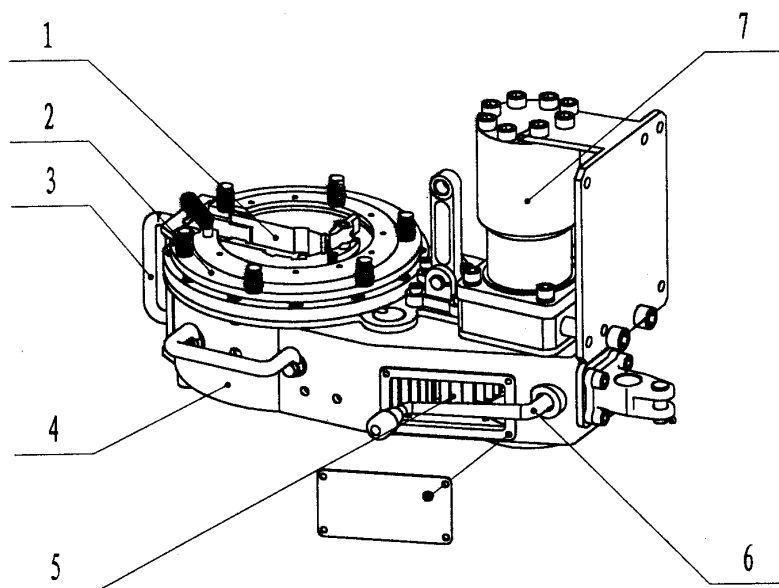

Fig 2
Manual control valve (2) controls power tong hydraulic motor (1). Hydraulic motor drives tong head to make up and break out sucker rod. Pressure gauge (3) shows the pressure in the hydraulic circuit. The figure 2 is the correspondence of pressure and torque. Line A is low gear rated torque, line B is high gear rated torque.
8.2 MASTER TONG (Fig 2, Table 2)
8.2 Mater tong (Fig 2, Table2)